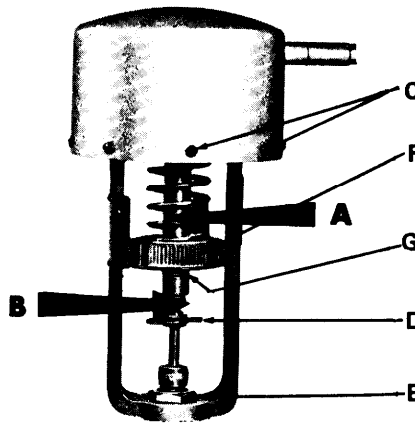

Figure 10
To RAISE temperature setting, turn adjustment wheel to LEFT (see arrow "A") (Fig. 10).
To LOWER temperature setting, turn adjustment wheel to RIGHT (see arrow "B") (Fig. 10).
NOTE: A locknut "G" with set screw is located under the adjustment wheel "F," Figure 10, which should be loosened to allow adjustment and tightened to maintain final adjustment.
1. Removal of lock pin (D) – (See Fig. 10):
3. Loosen set screw and the locknut "G" located under the adjustment wheel "F" (Fig. 10).
4. Turn adjusting wheel to LEFT (see Arrow "A", Fig. 10) until adjusting wheel is all the way off the threaded adjusting stem.
5. Remove screws "C" (Fig. 10) and lift off element.
1. Remove lock pin (D) (Fig. 10). (Do not disturb lock nut connecting regulator stem to connector.)
2. Remove lock nut (E) (Fig. 10) and lift regulator frame off valve body.